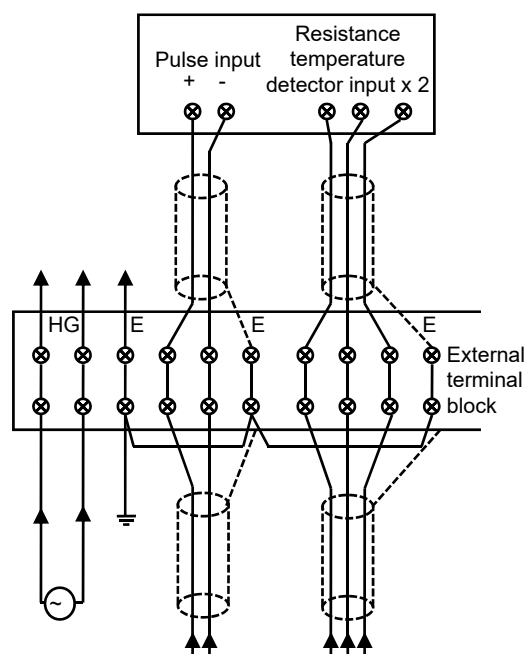

Figure 13
- \*2 Although the pulse input and resistance temperature detector input use shielded cables, the terminal block in the main unit does not have terminals for shielded cable. Separately prepare a ground terminal block of 100 Ω or less or equivalent. (See fig. 13.)